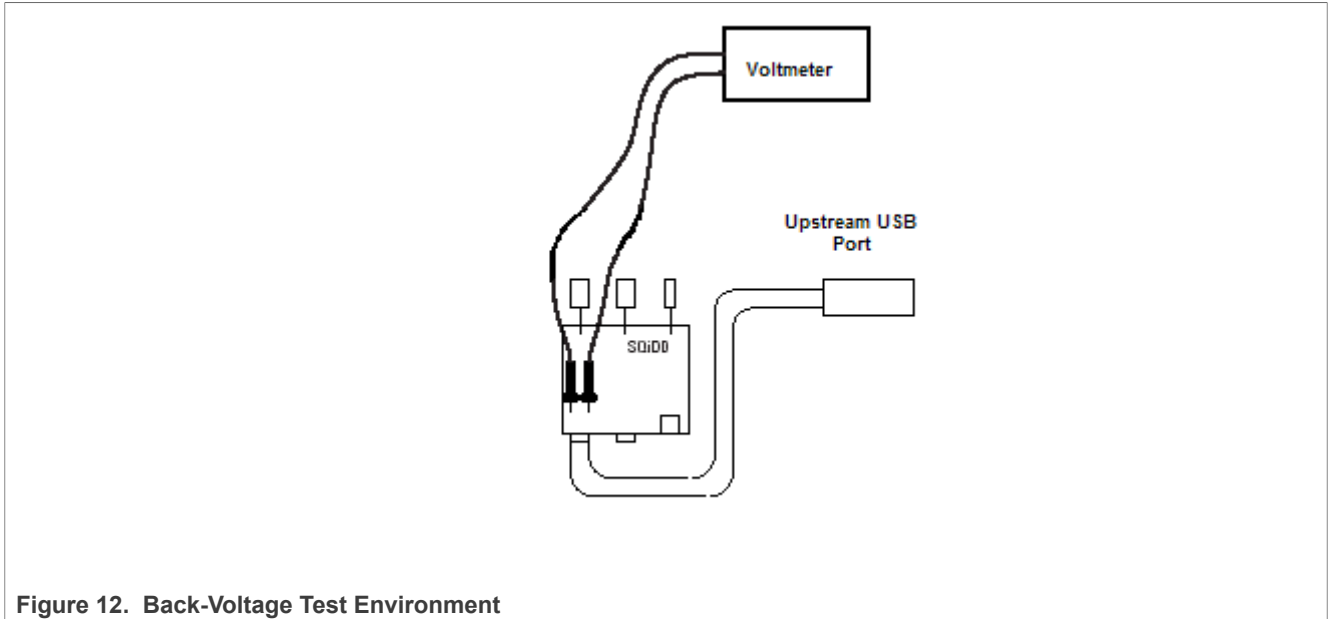

Figure 12. Back-Voltage Test Environment
2. Connect power supply to DUT and connect the device upstream port to the back-voltage test fixture using a known good USB cable as shown in Figure 12. Measure and record DC voltages on **VBUS**, **D+** and **D-**. Voltages should all be less than or equal to 400 mV. Any voltages greater than 400 mV will be recorded as a failure.